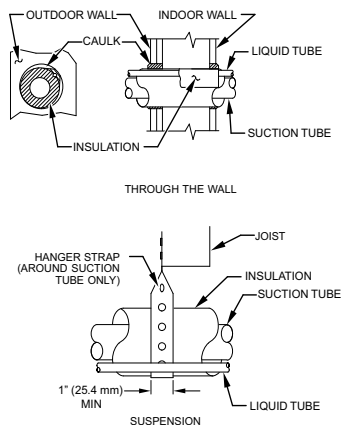

Fig. 1 – Connecting Tubing Installation
6. When passing refrigerant tubes through the wall, seal opening with RTV or other pliable silicon-based caulk (see Fig. 1).
- wire or strap which comes in direct contact with tubing (see Fig. 1).
10. When necessary, use hanger straps which are 1 in. (25 mm) wide and conform to shape of tubing insulation (see Fig. 1).